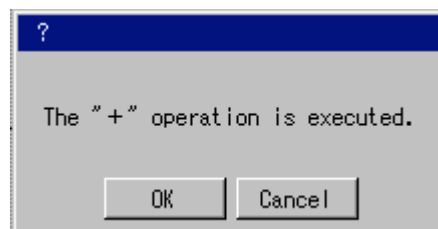

Figure 5.21 Operator check window
- 3) Press the <Constant> button to perform a calculation with a constant or the <File> button to perform a calculation with data. When the window shown in Figure 5.21 is displayed, press the <OK> button.